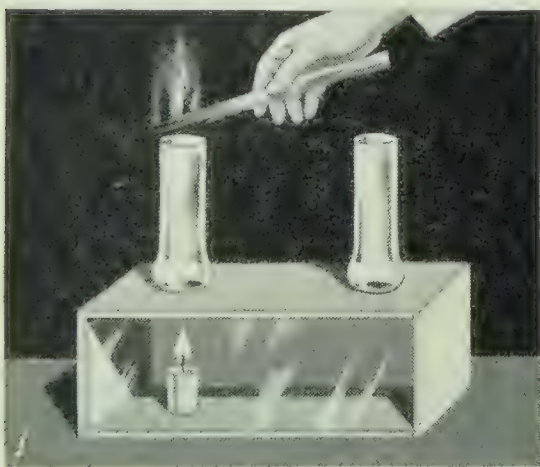

FIG. 180. Experiment 46
*Experiment 46. HOW DO WARM AIR AND COLD AIR BEHAVE?.* (a) Arrange an apparatus as shown in Figure 180. This is a box fitted with a glass front. Two holes are cut in the top of the box, and a lamp chimney is placed over each hole. A burning candle is placed inside the box directly under one of the holes. Hold a piece of smoking punk-stick or paper over the chimney that stands above the candle. Does the smoke move up or down?